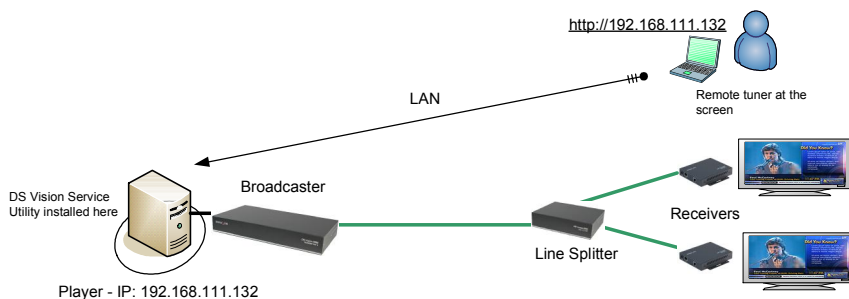

Figure 38 Remote tuning
The Service Utility must be installed on the players but is not needed on the remote tuning device. Figure 38 illustrates the basic concept.
1. Open a browser and type the IP address of the player. For example in Figure 38 the remote tuner accesses the tuning facility by typing the IP address <http://192.168.111.132>.